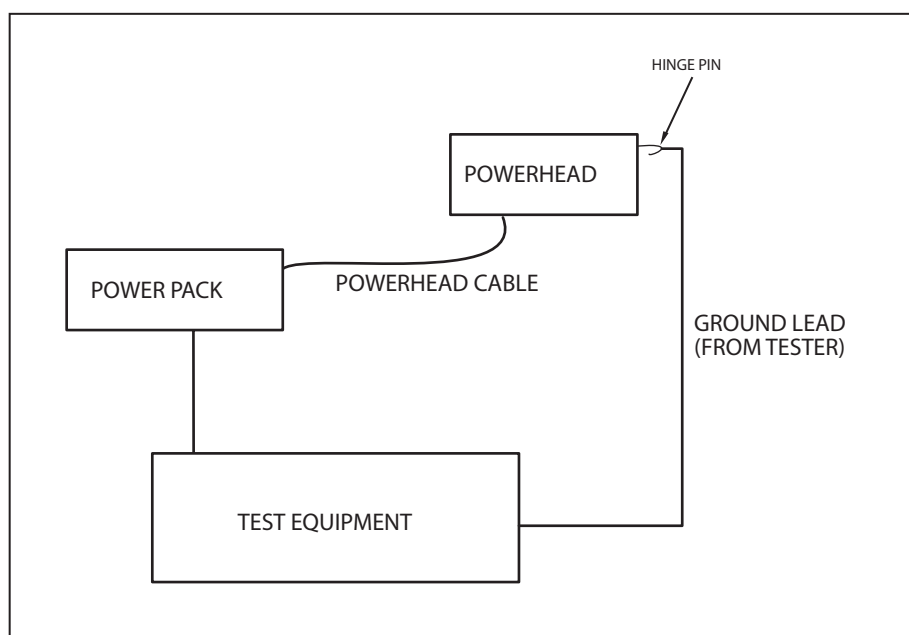

Figure 6-8-2 Ground Impedance Test Set-Up
1. Refer to Figure 6-8-2. Run a current of 25 A (50 or 60 Hz) with a no-load voltage (not to exceed 6 V) for at least 5 seconds through the protective earth pin in the mains plug and face plate hinge pin on the powerhead.